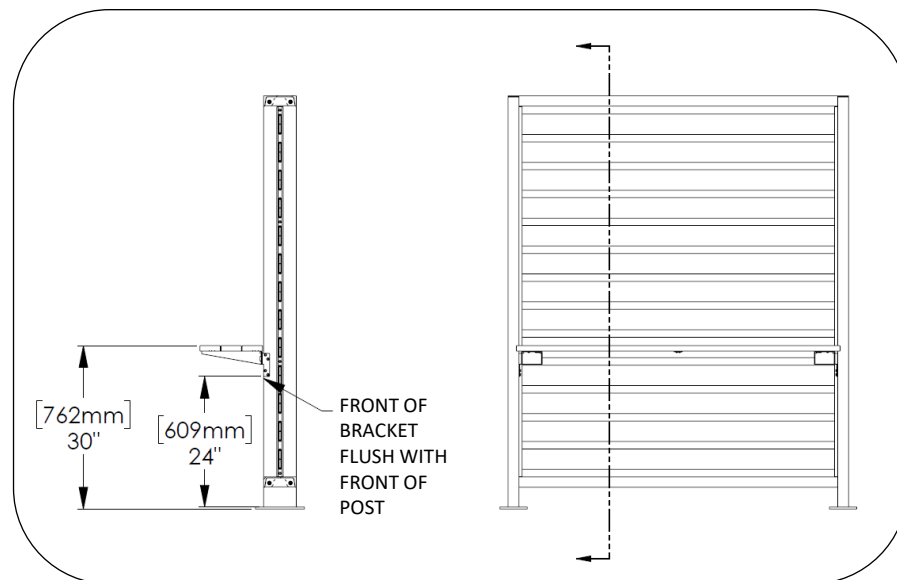
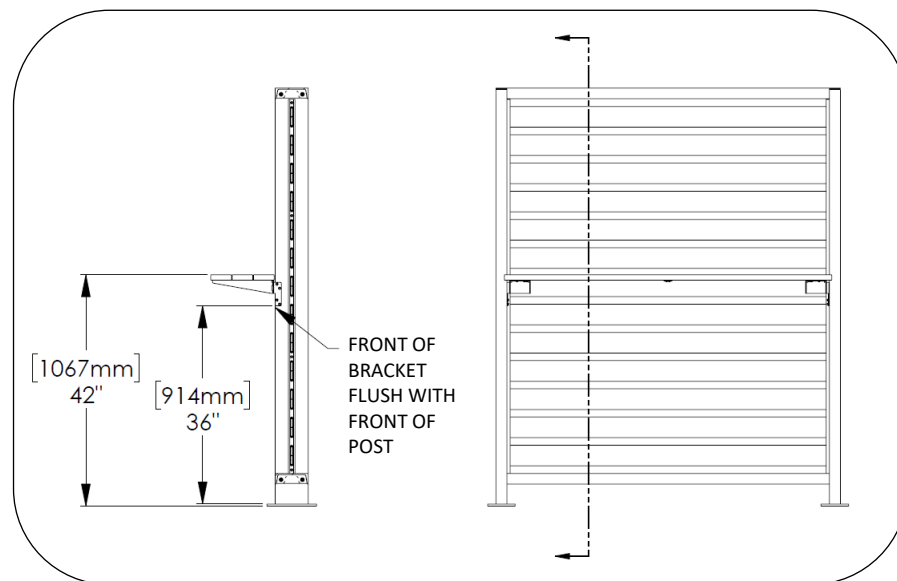

Fig. 1 – INSTALL INLINE TABLE AT DINING HT
Fig. 2 – INSTALL INLINE TABLE AT STANDING HT
2. Locate wall sections on plan for installation of inline table. Determine mounting height as specified in customer provided plan or follow recommendations noted in Fig. 1 or Fig. 2.